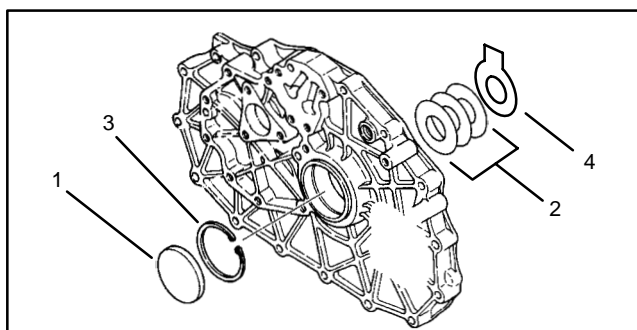

Figure 112
**IMPORTANT:** On newer versions of the center plate, use one tabbed shim (Item 4) with three tabless shims (Item 2) (Fig. 112).
**Note:** The thickest shim of the shim set (Item 2) should be positioned against the snap ring (Fig. 112).
23. Insert tabbed shim (Item 4) against the bearing. Insert shim set (Item 2) against the tabbed shim. Use thickest shims in set possible, that will permit installation of the snap ring. (Fig. 112 and 113).